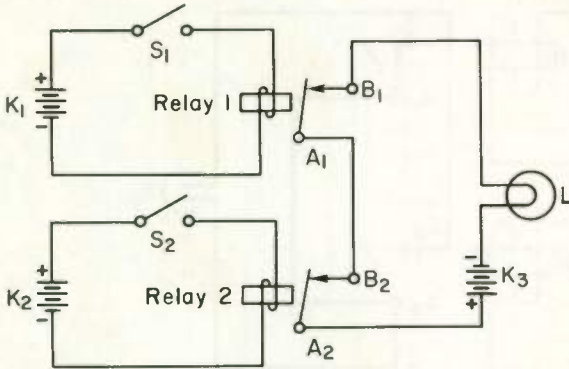
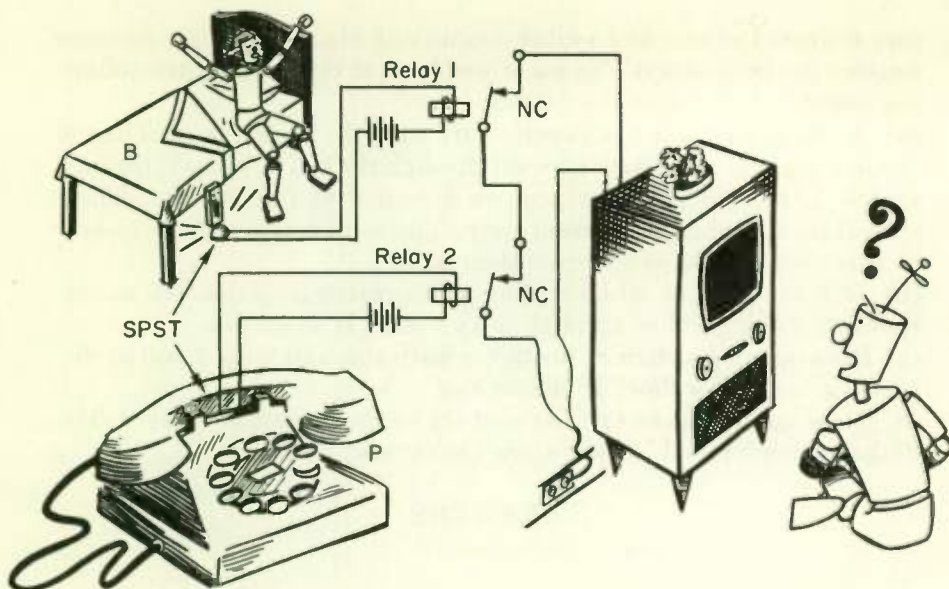

Fig. 27 Closing either switch turns the light off.
Fig. 28 An AND NOT circuit.
17 AND CIRCUIT WITH NOT . . . The two relays of Fig. 27 use NC-type contacts. When relay 1 is NOT energized AND relay 2 is NOT energized, the light will be on. We tell what happens in Boolean algebra as follows:
which means "When switch 1 is NOT closed AND switch 2 is NOT closed, light L is on." To get light L , Fig. 27, to burn, you must open both switch S_1 AND switch S_2 . If switch S_1 is open and switch S_2 is closed, light L will be off.
18 A CIRCUIT FOR TAMING THE TV . . . Henry, who likes electronic gadgetry, built the circuit of Fig. 28 to turn off his TV set when the telephone is in use or when he goes to bed. He rigged up a SPST spring-contact switch under the bed and adjusted it so it would close when the weight of a person pressed down on the bedspring. Thus relay 1 is energized when he goes to bed. He also made a SPST spring
which means "When relay R_1 is NOT energized AND relay R_2 is not energized, the TV set is on." This is exactly the same logic circuit discussed in the preceding topic, so Henry uses two NC relays connected up as in Fig. 27. One reason Henry used relays is that the switches can be operated with low-voltage batteries, which cannot cause an electric shock.
1. Two batteries are shown in Fig. 27 and Fig. 28. Henry actually only used one battery, which furnished electricity to both relays. Can
you redraw the coil and switch circuits of Fig. 28 and use just one battery for both relays? To see if you have it right, make the following tests: